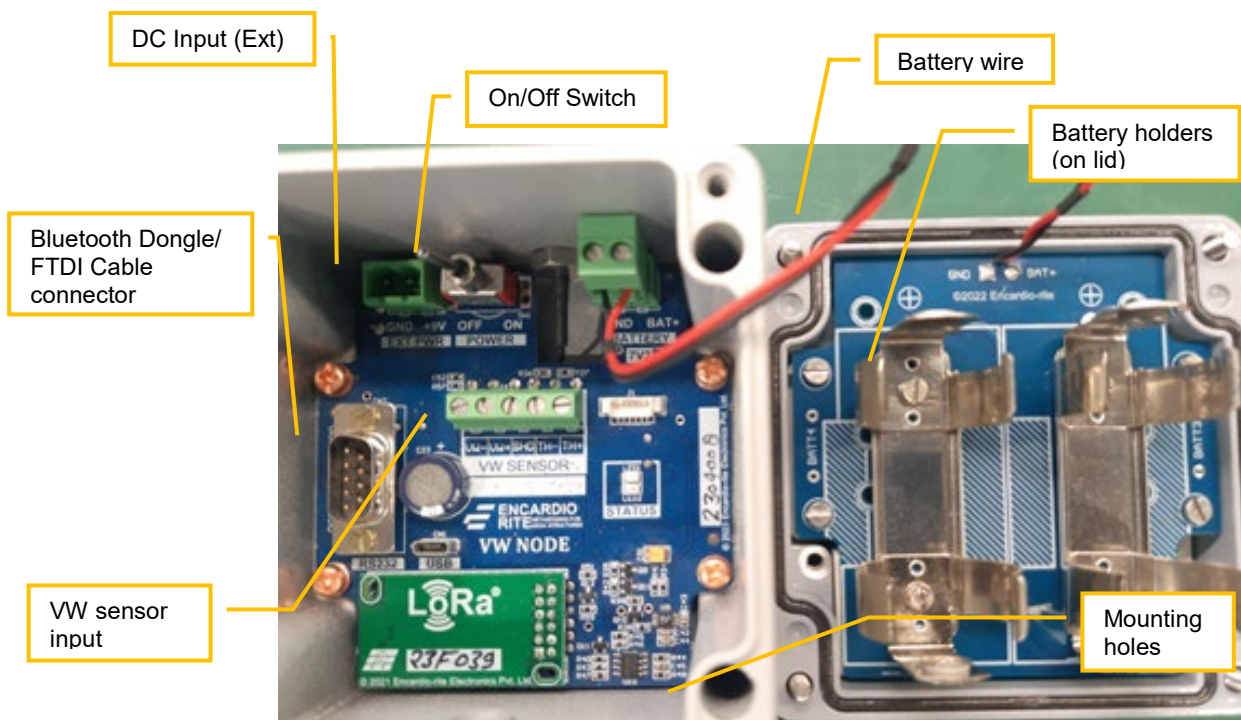

Figure 6-2 EWN-01V Single channel node details
- Open the top cover with screw driver. Description of each part of the node is given in the figure 6-2